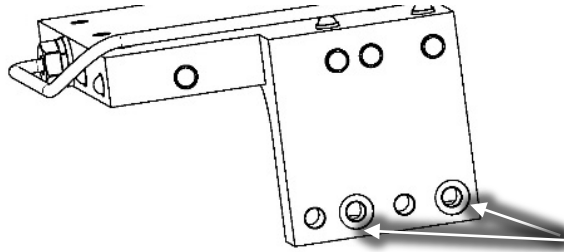

Figure 22 –SCR Cooling Manifold O-ring Installation
2. Apply O-Lube to the O-rings provided and install them into the SCR Cooling Manifold. Refer to Figure 22 (SCR Cooling Manifold O-ring Installation).